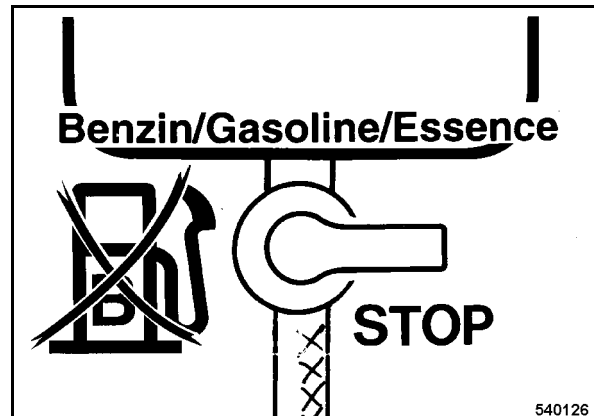

Fig. 25
- Set the fuel valve (Fig. 25) to "STOP" position (closed).